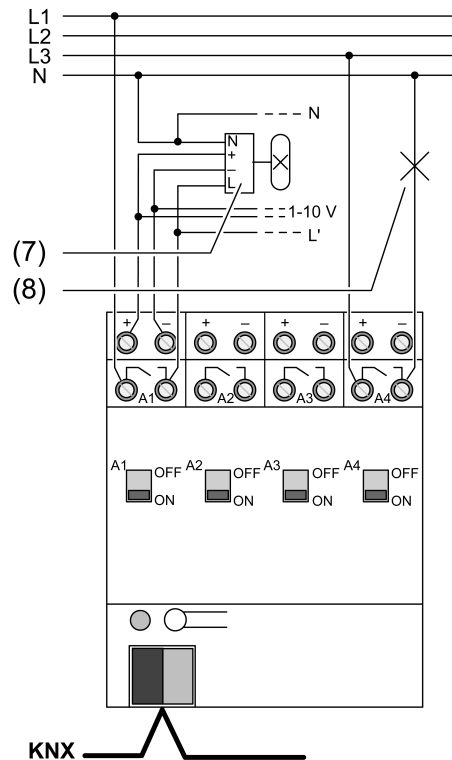

Figure 2: Connection example - Lamp operating device with 1-10 V interface
- Connect the device according to the connection diagram (Figure 2).